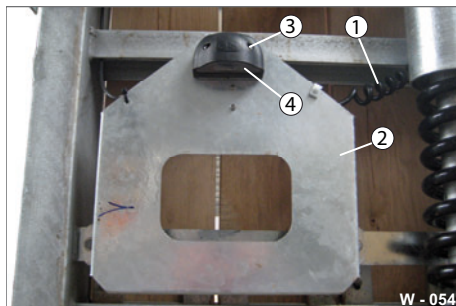

Fig. 54 Number plate holder
- ▶ Loosen the fixing screws (Fig. 54/3).
- ▶ Replace the lamp (Fig. 54/4).